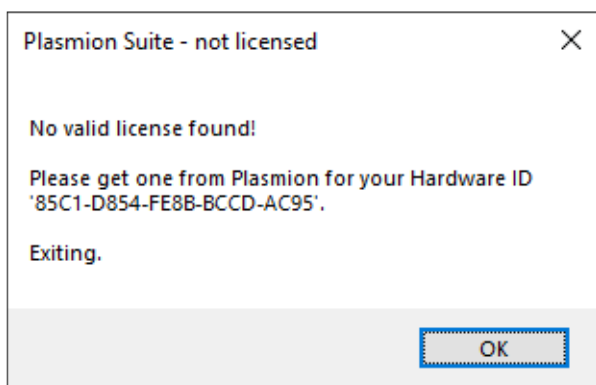

Figure 4: Hardware License window.
- Make a note of the hardware ID that is displayed in the window that pops up (see Fig. 4)